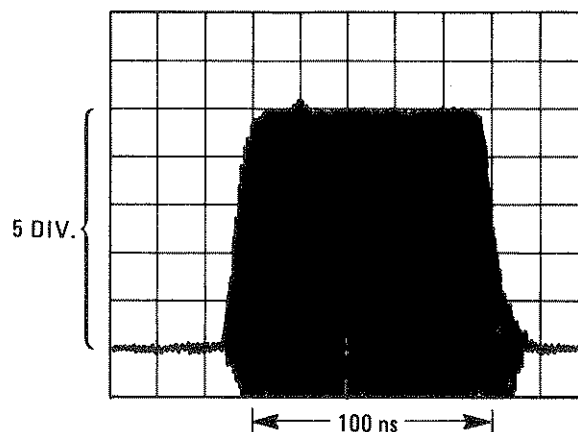

Figure 4-28. Pulse Rise/Fall Time and Overshoot Waveform
- Adjust the oscilloscope to center the pulse waveform. Adjust the vertical controls for a 5 division peak pulse display. See Figure 4-28.